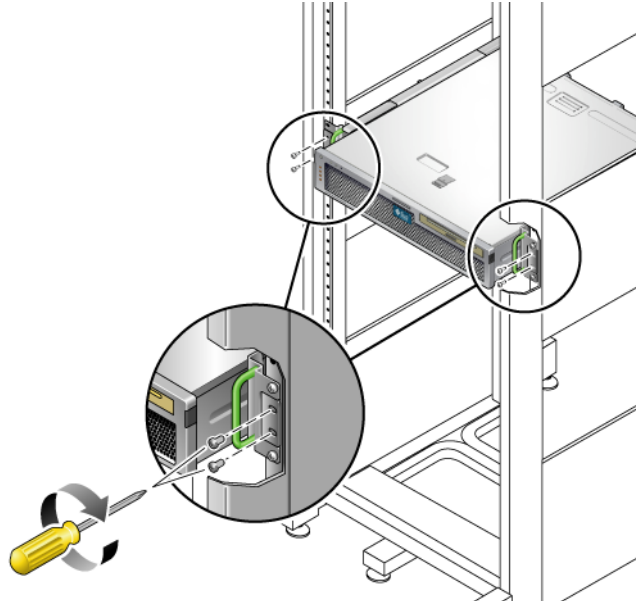

FIGURE 2-22 Securing the Front of the Server to the Front of the Rack
17. At the front of the rack, use two screws per side to secure the side rails that are attached to the server to the front of the rack (FIGURE 2-22).